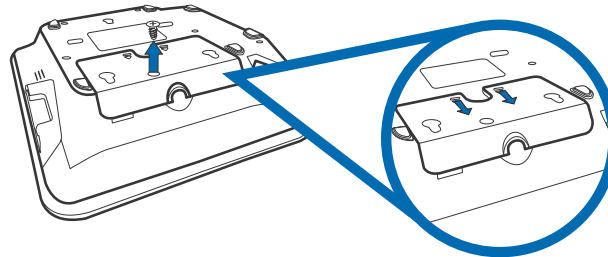

Figure 3 Removing the Cable Cover
- 3 Remove cable cover as shown in Figure 3.